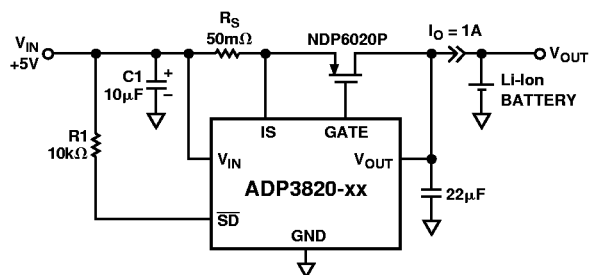
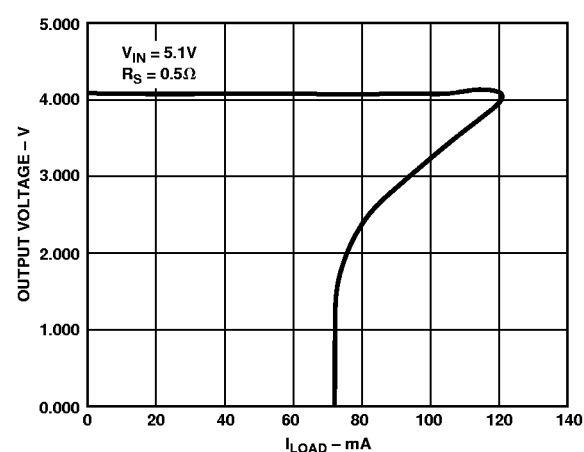

Figure 1. Li-Ion Charger Application Circuit
Figure 13. Current Limit Foldback*
*Reference Figure 1.
When fully charged, the circuit in Figure 1 works like a well known linear regulator, holding the output voltage within the specified accuracy as needed by single cell Li-Ion batteries. The output is sensed by the V_{OUT} pin. When charging a discharged battery, the circuit maintains a set charging current determined by the current sense resistor until the battery is fully charged, then reduces it to a trickle charge to keep the battery at the specified voltage. The voltage drop across the R_S current sense resistor is sensed by the IS input of the ADP3820. At minimum battery voltage or at shorted battery, the circuit reduces this current (foldback) to limit the dissipation of the FET (see Figure 13). Both the V_{IN} input and V_{OUT} sense pins of the IC need to be bypassed by a suitable bypass capacitor.
For the circuit shown in Figure 1, the required θ_{JA} thermal impedance can be calculated as follows: if the FET data sheet allows a max FET junction temperature of $T_{JMAX} = 150^\circ\text{C}$, then at 50°C ambient and at convection cooling, the maximum allowed ΔT junction temperature rise is thus, $T_{JMAX} - T_{AMAX} = 150^\circ\text{C} - 50^\circ\text{C} = 100^\circ\text{C}$.
The maximum current for a shorted or discharged battery is reduced from the set charge current by a multiplier factor shown in Figure 13 due to the foldback current limiting feature of the
This thermal impedance can be realized using the transistor shown in Figure 1 when surface mounted to a $40 \times 40\text{ mm}$ double-sided PCB with many vias around the tab of the surface-mounted FET to the backplane of the PCB. Alternatively, a TO-220 packaged FET mounted to a heatsink could be used.
The power FET is protected during short circuit conditions with a foldback type of current limiting that significantly reduces the current. See Figure 13 for foldback current limit information.